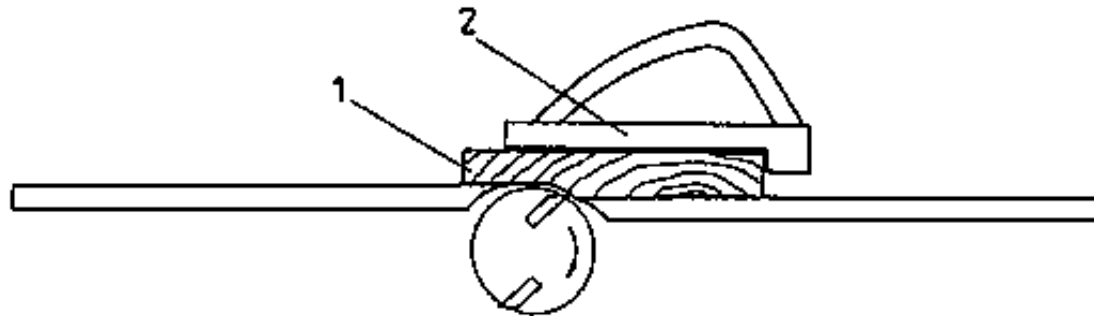

Figure 5 - Milling with feeding device
- **make use of the feeding device when machining short workpieces (see Figure 5)**